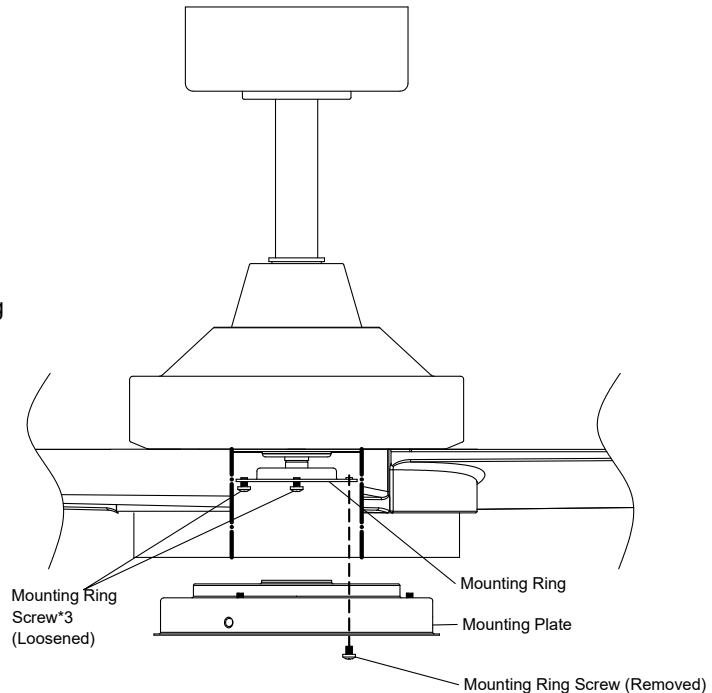

Fig. 16
Step 1. Loosen 3 of the mounting ring screws on the mounting ring attached to the motor shaft, and remove and save the fourth mounting ring screw. **(Fig. 16)**
Step 2. Place the key holes in the mounting plate over the 3 mounting ring screws that were loosened on the mounting ring, and turn mounting plate (clockwise) until it locks in place against the mounting ring screws at the narrow sections of the key holes. **(Fig. 16)**
Reinstall the fourth mounting ring screw that was previously removed, and tighten all 4 mounting ring screws to secure. **(Fig. 16)**